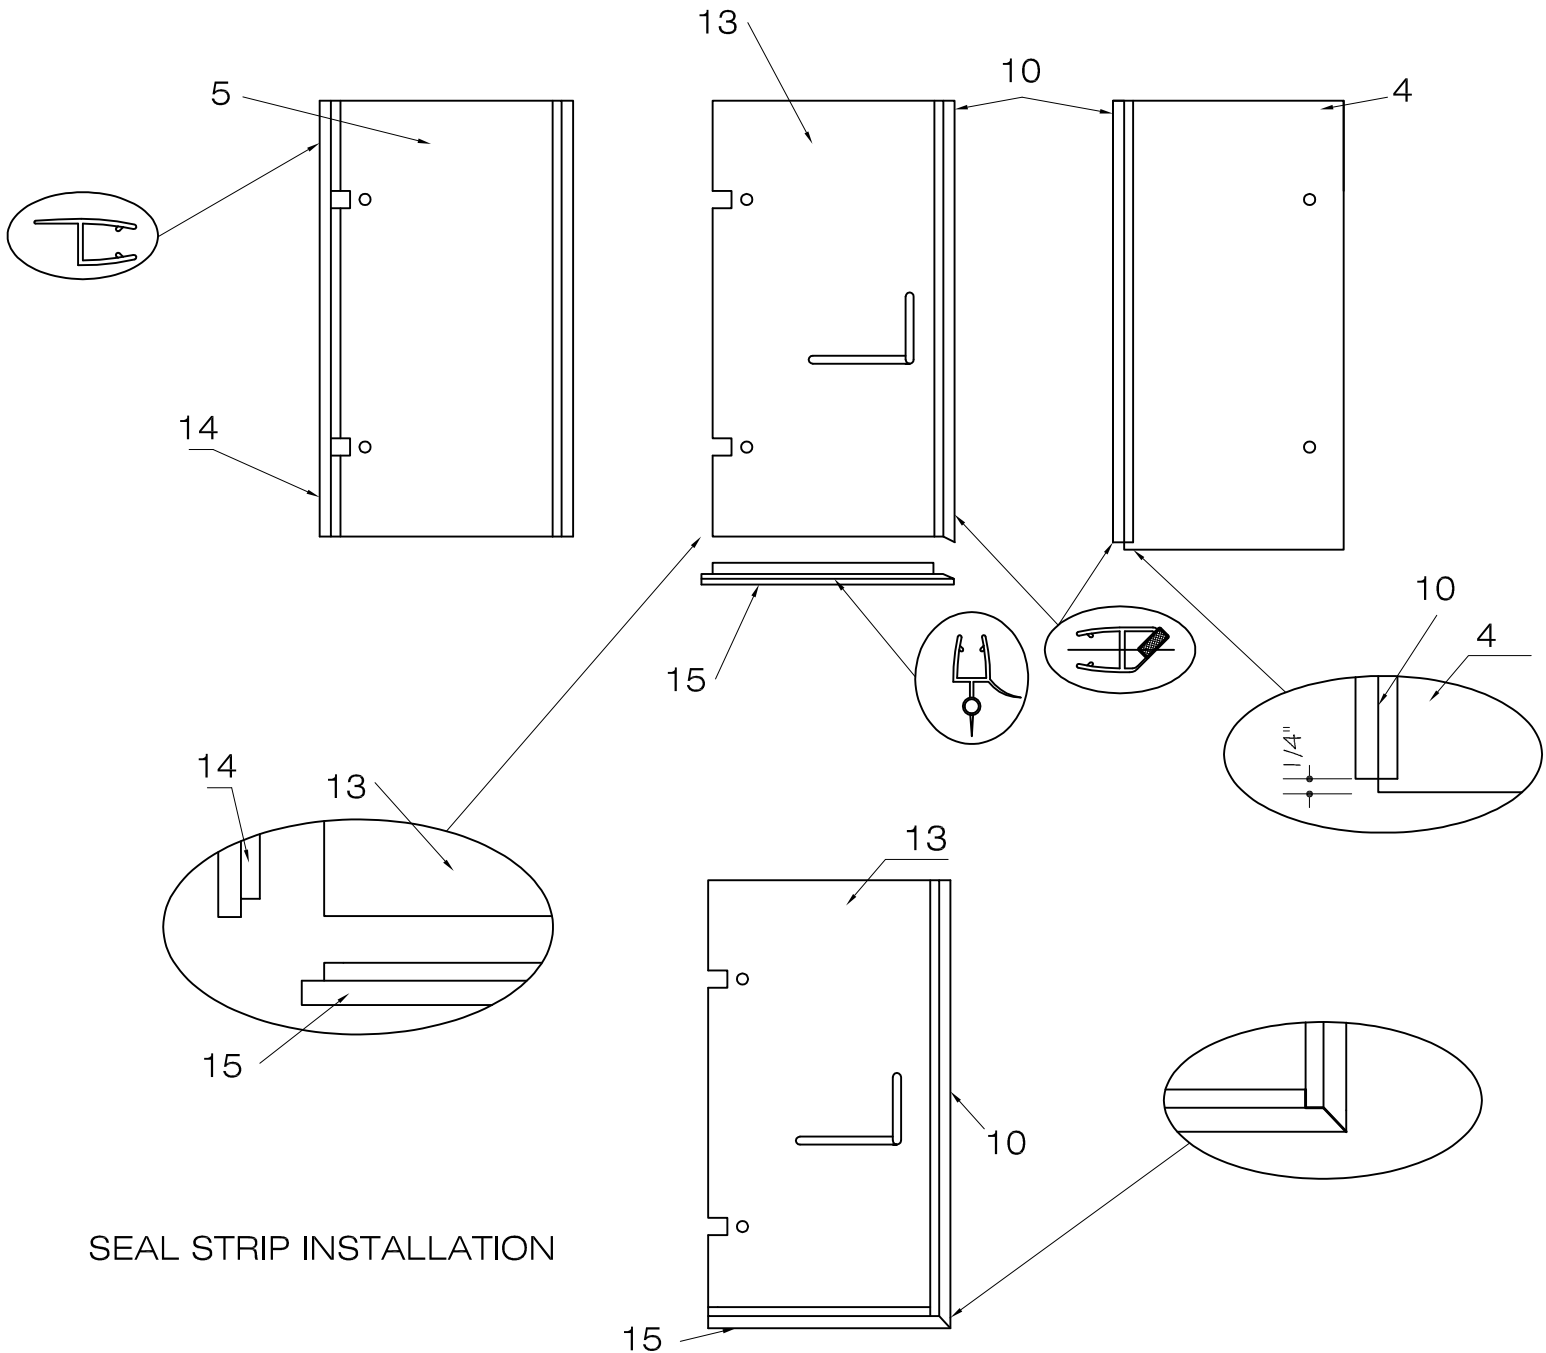

FIG.7
1. Clean all glass panel edges receiving seal strips with rubbing alcohol. [SEE FIG.7]
2. Cut seal strips (#10, #15) according to seal strip diagram (FIG.7).
4. Install seal strips according to seal strip diagram (FIG.7).